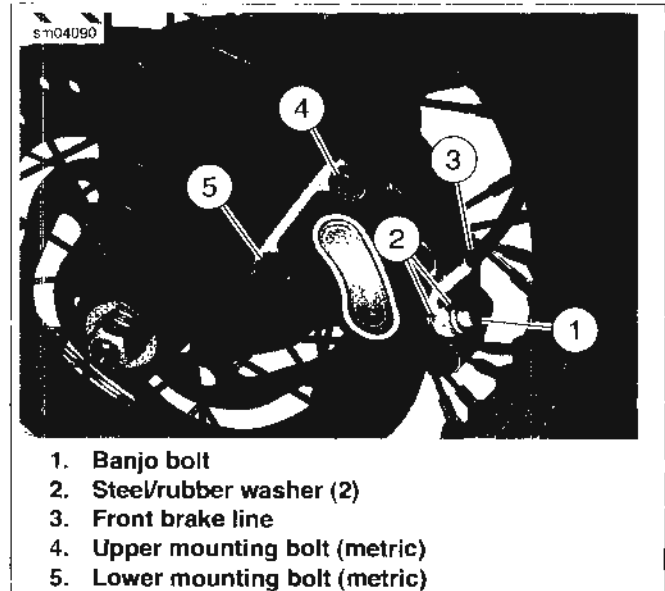

Figure 2-40. Front Caliper
1. See Figure 2-40. Attach caliper to fork leg.
- b. Loosely install upper mounting bolt (4) (metric) into top hole on fork leg.
- c. Install lower mounting bolt (5) (metric) into bottom hole on fork leg. Tighten bottom mounting bolt to 28-38 ft-lbs (38.0-51.5 Nm).